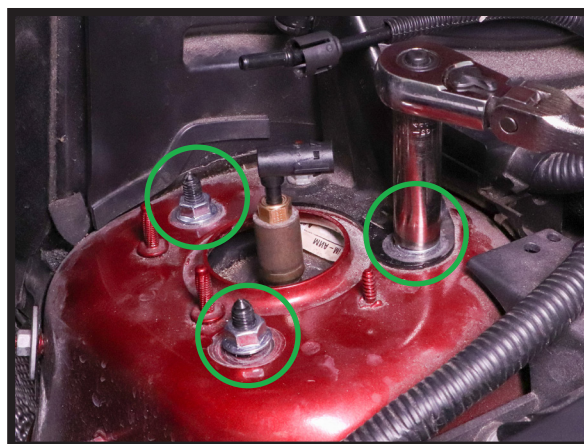

FIGURE 4
5. REMOVE THE THREE (3) TOP MOUNT NUTS FROM THE AIR STRUT. (FIGURE 4)